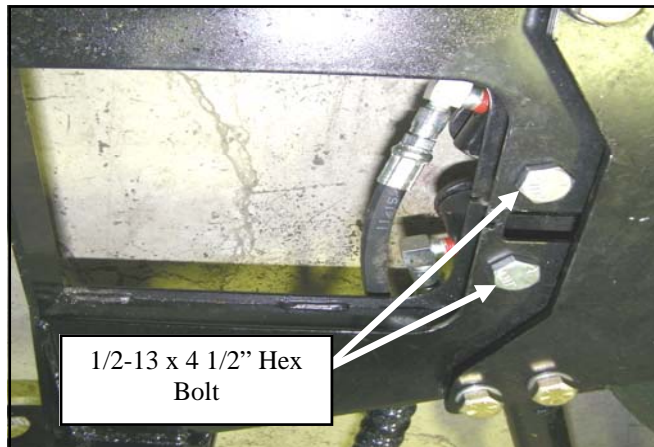

Fig. 14.1 Angle Cylinder
- 14.2 Place the fixed end of each angle cylinder into its respective bracket under the plow A- frame making sure that 90° Elbow is in orientation shown. Insert 1/2"-13 x 4 1/2" bolts through the plow A- frame, the stationary ends of the angle cylinders, and the lower cylinder brackets of the A-frame. Fasten and tighten using 1/2-13 lock nuts. See Fig. 14.1. (Do not over tighten, 1-3 threads should be showing past nut)